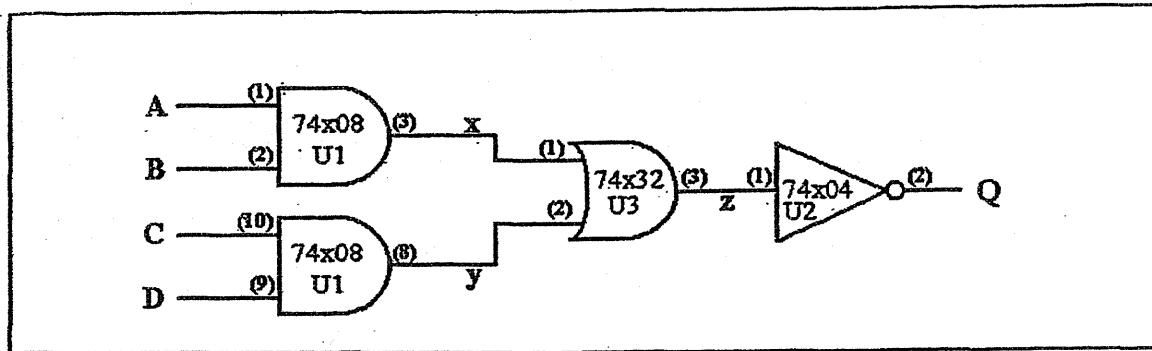

Figure 1.5: Debugging Circuit
- 3) Analyze the circuit given in Figure 1.5. Provide your analysis in a truth table. Include in your truth table all the internal nodes (x, y, and z).
Connect the circuit shown in Figure 1.5. Using an LED, probe each internal node (x, y, and z) and record your results in a truth table.. If there are any problems with your circuit record what was wrong and how you were able to fix it.